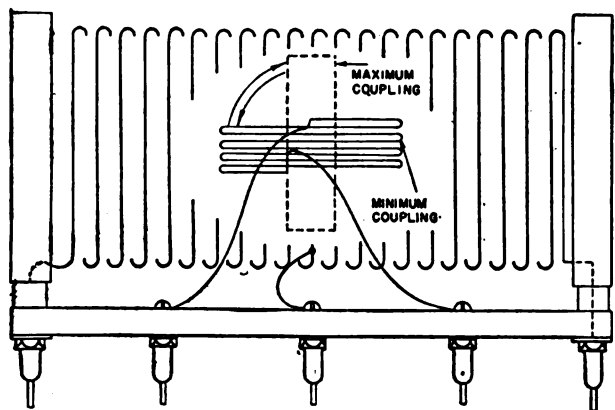

Figure 48. Method of adjusting coupling.
(2) Rotate the link coil so that the purple mark on the link coil is next to the similar mark on the primary (fixed) winding. Then rotate the link coil, in a clockwise direction, until its axis is at an angle of 90° with the axis of the primary winding. This is a position of minimum coupling. (See fig. 48.)